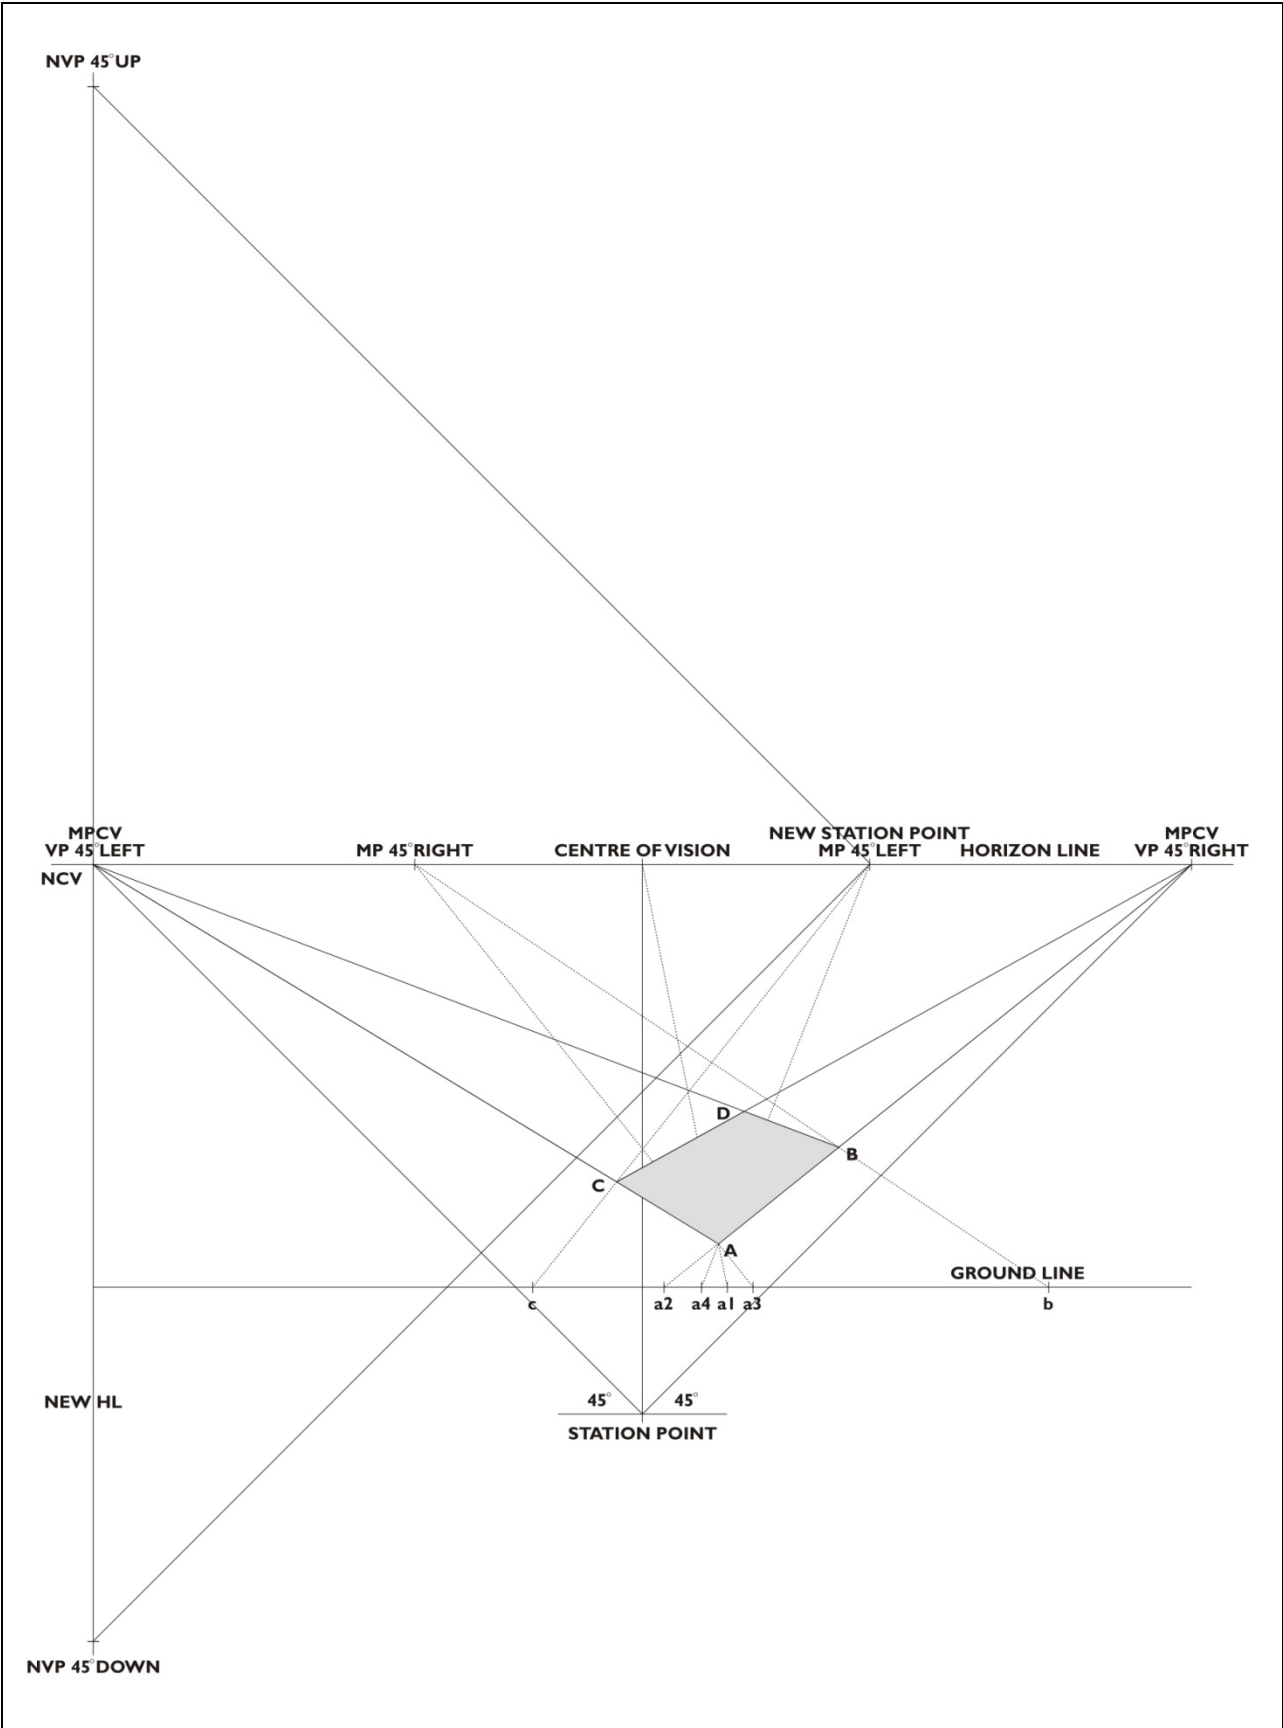

Figure 4.8 Three-point perspective establish base of box
1. To create the other side of the box on the ground line, draw a line from point A to VP 45° Left. Refer to Figure 4.8 for information.